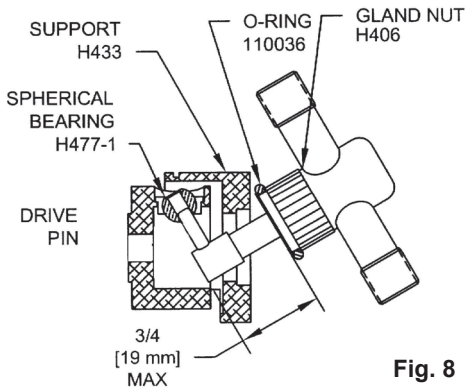
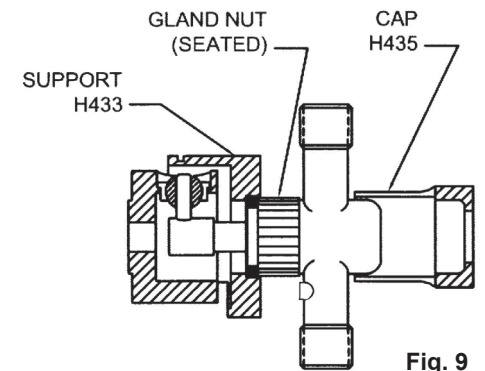

Fig. 8
Fig. 9
15. REMOVING PISTON/CYLINDER GROUP ASSEMBLY. (Refer to Fig. 8.) Remove two 110655-20 screws and while holding cylinder ports in place, slip part H435 off of CYLINDER ASSEMBLY H422. Tilt the assembly as shown in Fig. 8. This will permit removal of PISTON DRIVE PIN 110366 from SPHERICAL BEARING H477 without fully withdrawing piston from liner.
17. PISTON/CYLINDER GROUP ASSEMBLY REPLACEMENT. (Refer to Figs. 8,9) Install "O" RING 110036 over GLAND NUT H406. Note in Fig. 8 that PISTON DRIVE PIN must be guided into SPHERICAL BEARING H477-1 while the piston and cylinder remain assembled. This for the purpose of avoiding assembly damage to the seals. When PIN is in bearing, seat GLAND NUT with "O" RING in SUPPORT H433 as shown in Fig. 9.